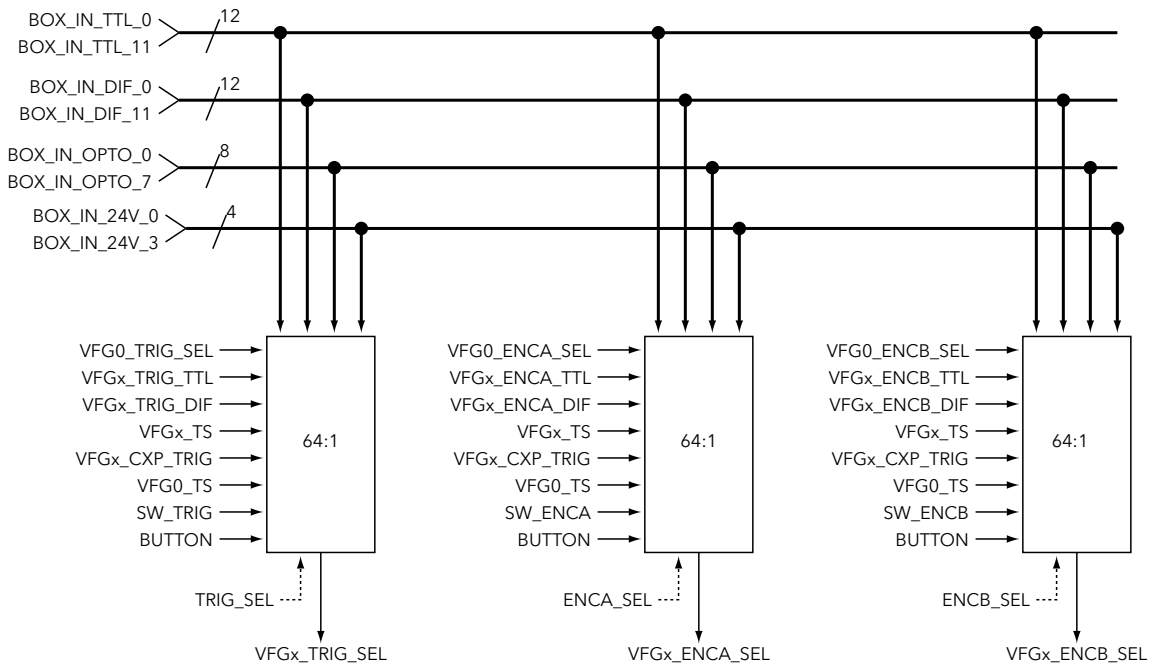

Figure 5-2 I/O System Input Selection
Figure 5-2 illustrates the I/O System input selection circuitry. As discussed above, each internal signal has its own selector. For each internal signal there are 64 possible sources.
*Note: Each VFG has a copy of the circuit shown in Figure 5-2. This is why the outputs do not specify the VFG number (e.g. "VFGx\_TRIG\_SEL). However, some inputs do specify the VFG number (e.g. VFG0\_TRIG\_SEL), which means this input comes explicitly from VFG0.*